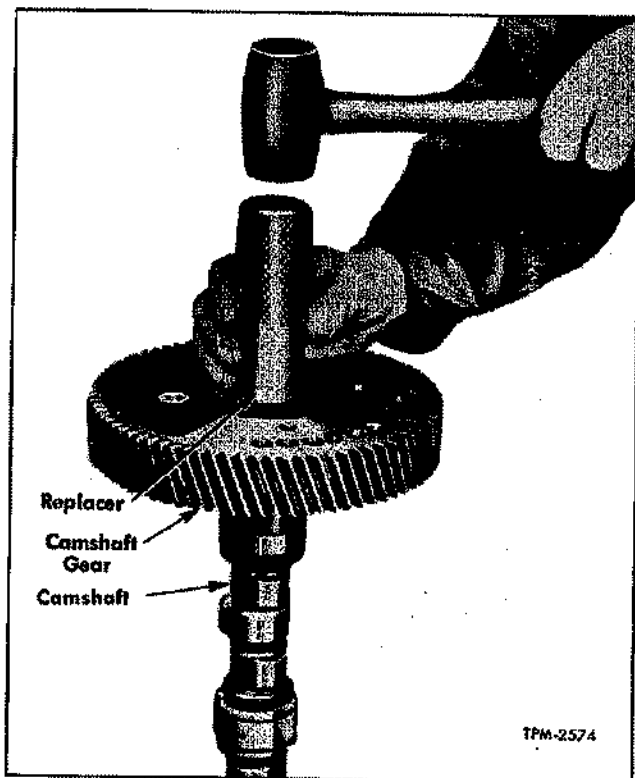

Figure 67—Use of Cam and Balance Shaft Gear Replacing Tool
4. Using replacer in manner illustrated in figure 67, drive gear onto shaft, tightly against shoulder. Drive gear on balancer shaft in same manner.